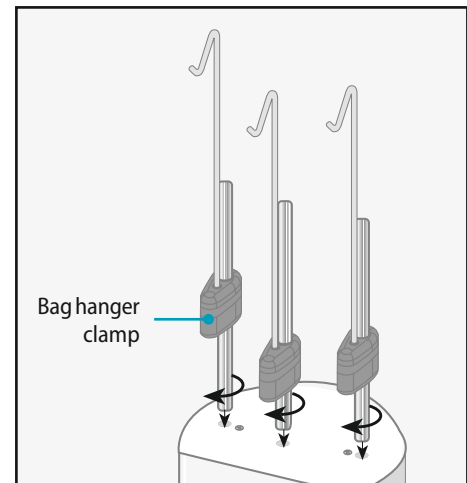

Figure 2.10: Attach bag hangers.
9. Attach the bag hangers to the instrument and tighten the rods with clockwise twists until hand tight (see Figure 2.10). The height of the bag hangers may be adjusted by pressing the bag hanger clamps (see Figure 2.10).